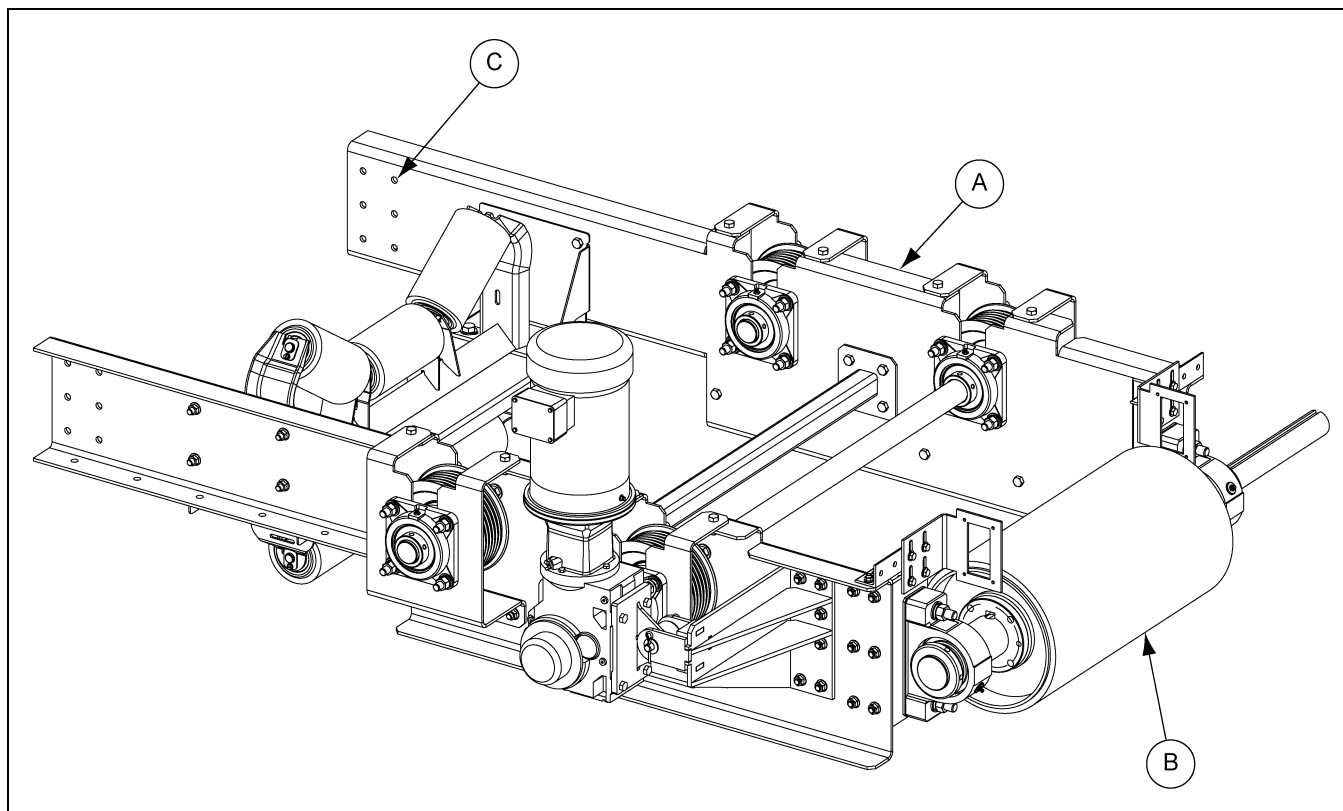

Figure 4A Head Section
Figure 4A shows a typical head section (A). The head section (A) must be properly supported so there is no vertical or horizontal movement.